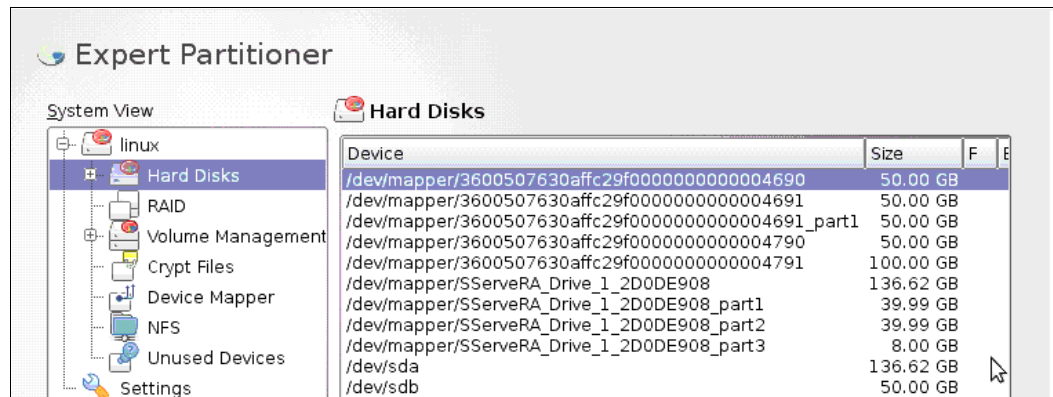

Figure 6-6 Selecting multipath device for installation
- Click **Yes** when the tool asks for confirmation. The tool rescans the disk devices and provides an updated list of hard disks that also shows the multipath devices it has found, as you can see in Figure 6-6.